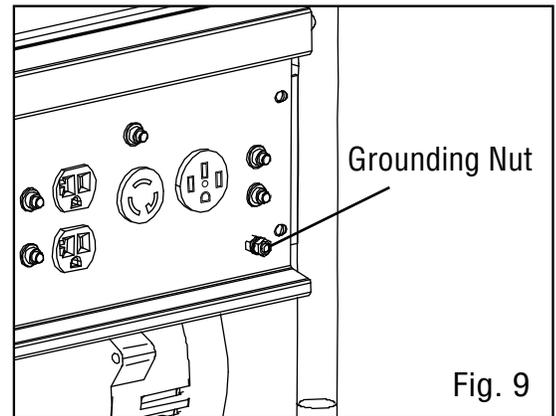

Fig. 9
4. Turn the LPG tank valve ON (Fig. 9) and check for leaks by spraying soapy water to check connections. If bubbles appear, become larger in size, or increase in number, a leak exists. This **MUST** be corrected before using generator. Contact your local Independent Authorized Service Dealer (IASD) for assistance.